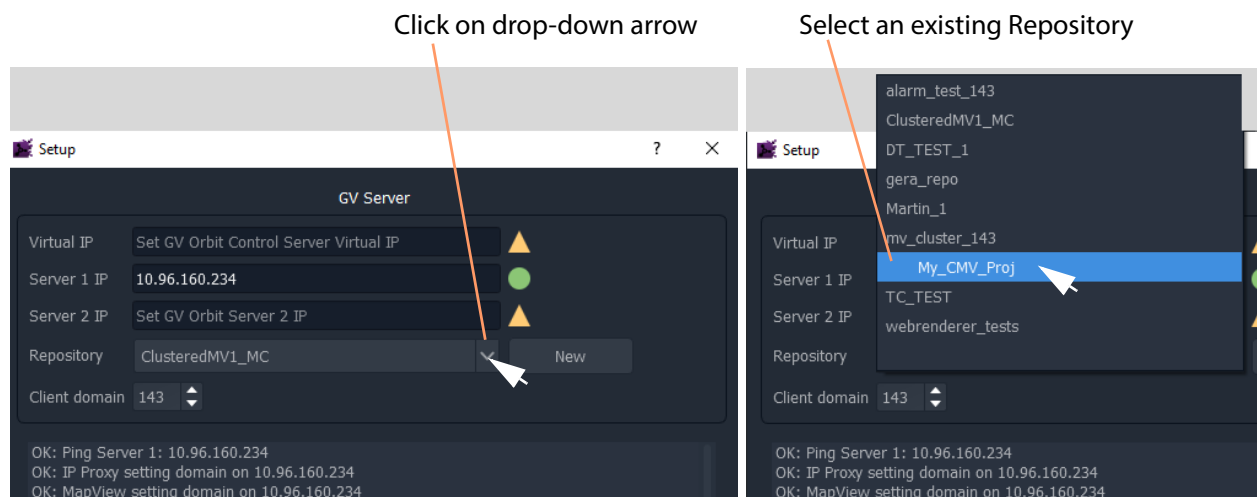

Fig. 15-10: Select Existing Repository
- 1 At the **Repository** drop-down box, select a Repository from the drop-down list. (See Figure 15-10.)